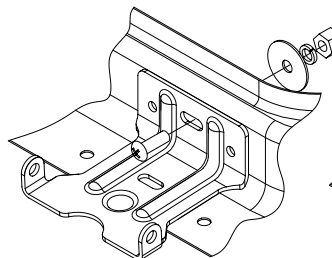

Figure 7
- iii. Fasten the brackets to the roof vent using the #8-32 screws with the fender washer, lock washers and nuts on the inside of the roof vent side wall. See Figure 7.